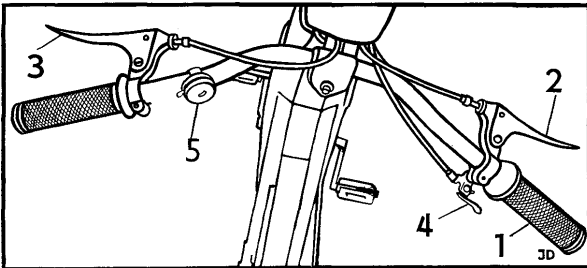
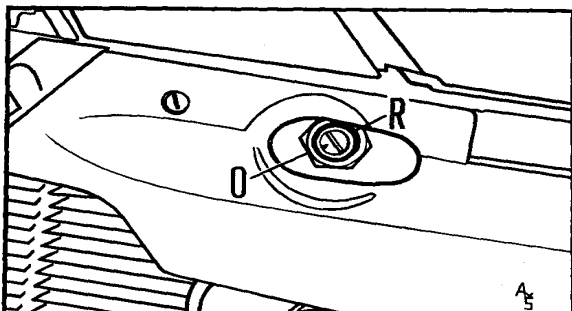
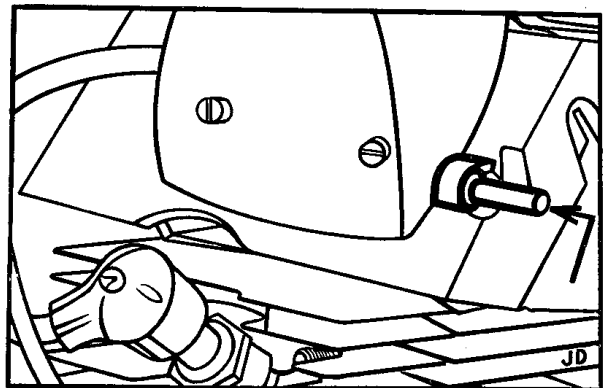

Fig. 2. Steering of vehicle
Fig. 4. Fuel tap O-opened fuel supply, R-reserve
Fig. 5. Air closing push button
- Throttle twist grip (1, fig. 2) the rotation of which disengages and engages automatically the clutch by releasing and throttling the gas and further this is used to regulate the velocity of vehicle.
- Front brake (2, fig. 2) and rear brake (3, fig. 2) levers by means of which the moped is braked and stopped
- Decompressor lever (4, fig. 2) by means of which the engine is stopped or the start is facilitated.
- Buzzer push-button (5, fig. 2)
- Fuel tap (fig. 4)
- Air closing push button (fig. 5)
Open the fuel tap (fig. 4) press the push button of air closure (fig. 5) up to contact (after depressing the pin jumps out, the air, however remains shut) There are two kinds of starting the engine. Starting the cold engine during the summer period.
In the case the braking is required release the gas grip with brake levers (2,3 fig.2) and brake down. One proceeds in the same way when stopping the vehicle. The clutch disengages due to the velocity decrease and the engine works on idle run. If the drive is continued due to the releasing of gas the clutch is engaged again and the vehicle is put in motion. After finishing the drive the engine is to be stopped by depressing the decompressor lever (4, fig.2) and shut the supply of fuel by rotating the fuel tap lever (fig.4) to the position C. The position of lever B is the reserve and it is sufficient for the drive of abt. 30 km.